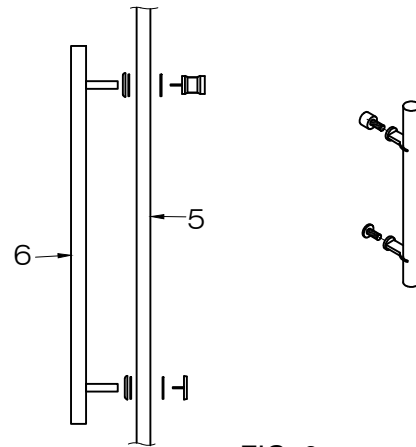

FIG. 9
2. Place the handle to the position on the door. Place plastic washers (supplied) on each side of the door. [SEE FIG.9]